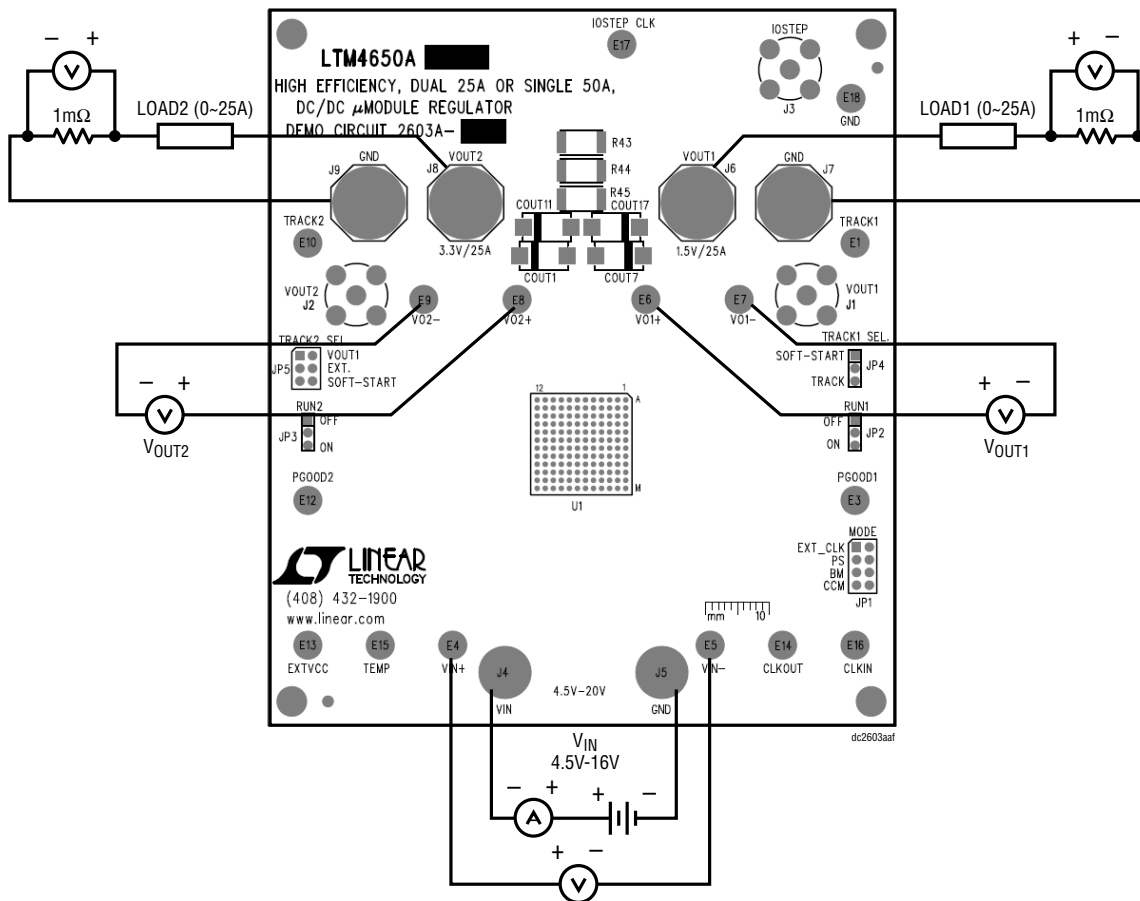

Figure 2. Test Setup of DC2603A-A
Demonstration circuit DC2603A-A is easy to set up to evaluate the performance of the LTM4650AEY. Please refer to Figure 2 for proper measurement setup and follow the procedure below:
- With power off, connect the input power supply, load and meters as shown in Figure 2. Preset the load to 0A and V_{IN} supply to 12V.